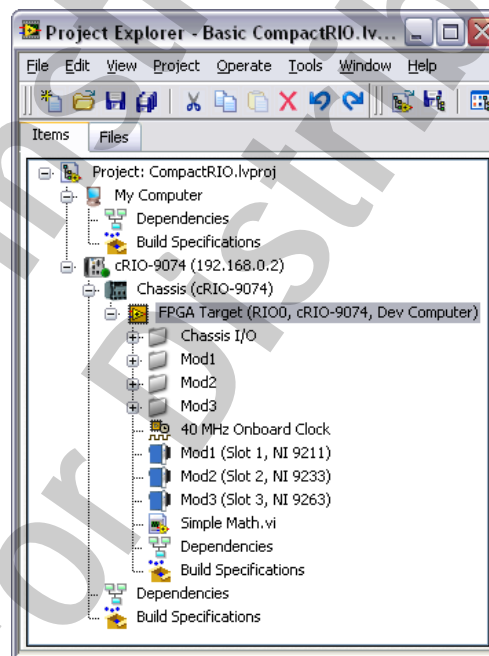

Figure 3-1. CompactRIO.lvproj with VI Executing on Development Computer
- ☐ The project should now resemble Figure 3-1.